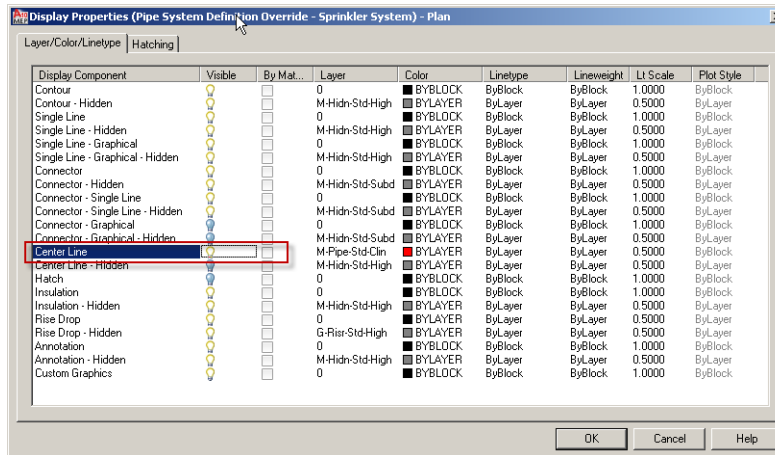

Figure 6.29
3. Select the Center Line Display Component and then click the Light Bulb icon next to it to turn on its visibility (see Figure 6.29).